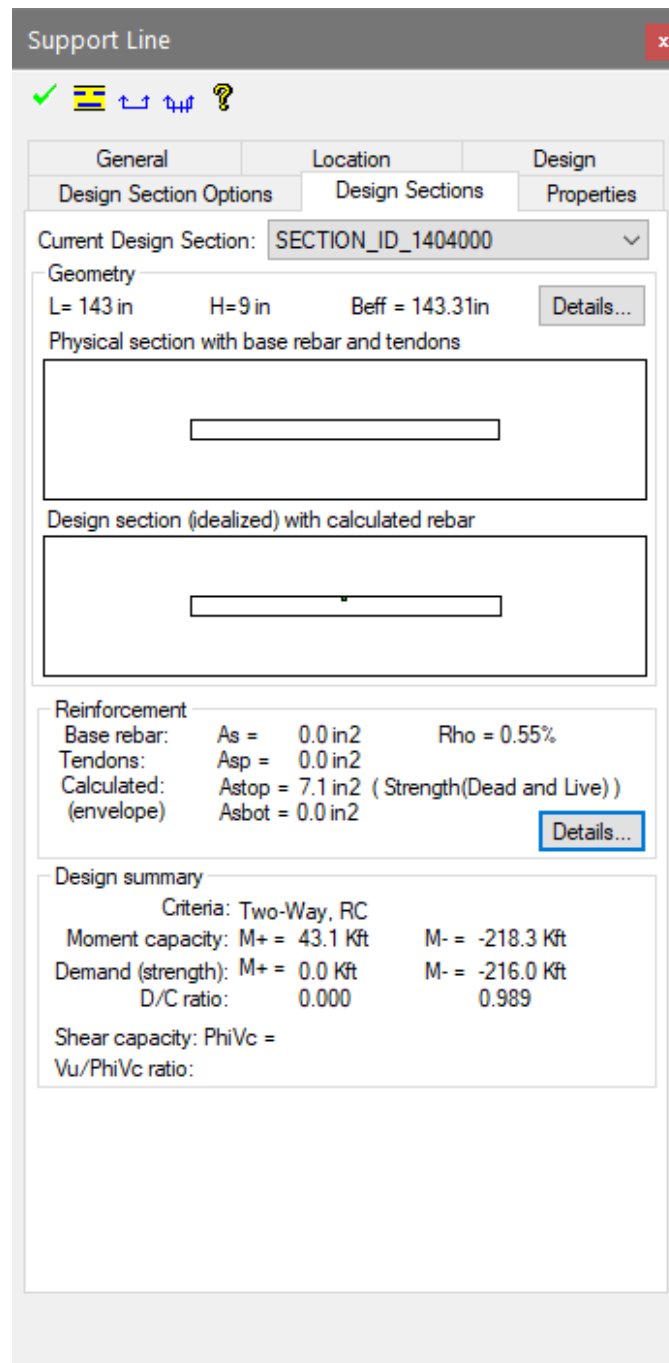

Figure 7-22
- With your mouse double click along the design section just to the north of this column in plan to open the *Support Line properties* window. Click on the *Design Section* tab to change the properties window as shown in **FIGURE 7-22**.